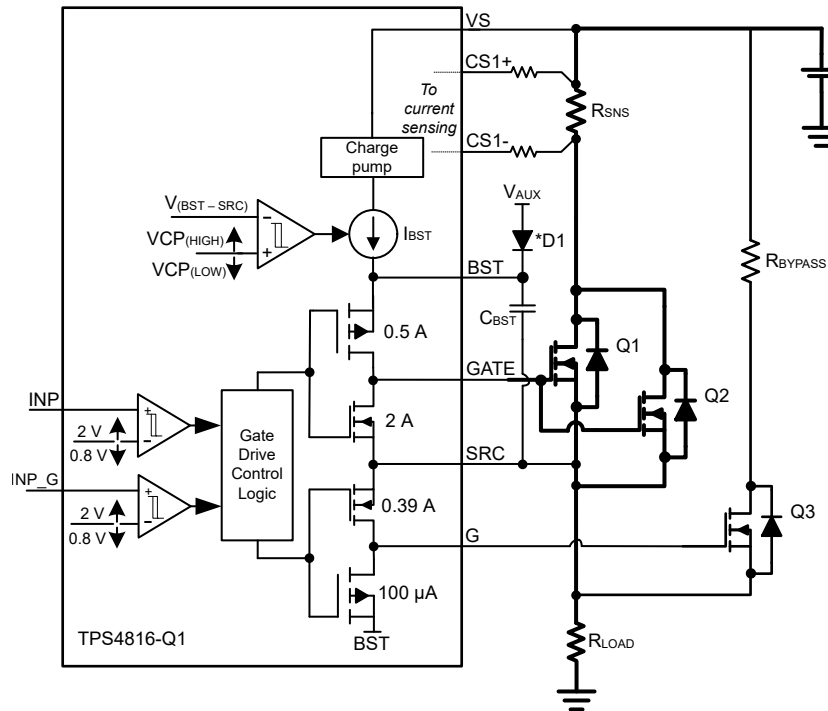

Figure 8-1. Gate Driver
Figure 8-1 shows a simplified diagram of the charge pump and gate driver circuit implementation. The device houses a strong 0.5-A/2-A peak source/sink gate driver (GATE) for main FETs Q1, Q2 and 100-µA/0.39-A peak source/sink current gate driver (G) for bypass FET Q3. The strong gate drivers enable paralleling of FETs in high power system designs ensuring minimum transition time in saturation region. A 12-V in active mode, 600-µA charge pump is derived from VS terminal and charges the external boot-strap capacitor, C_{BST} that is placed across the gate driver (BST and SRC).